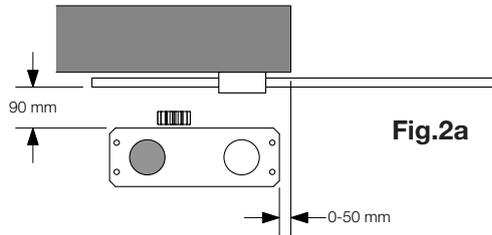

Fig.2a
The positioning of the plate must respect the distances indicated in figures 2a/b/c/d (seen from above):
- Fig. 2a installation with motor on the left